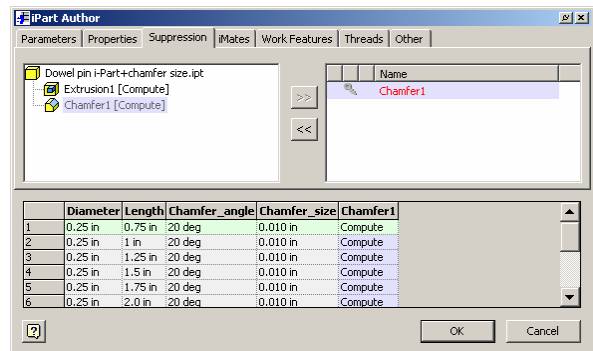

Figure 7: iPart Author Suppression tab.
3. Click on the >> button. A new Chamfer1 column appears in the table, with the word Compute in every cell, as per figure 7.